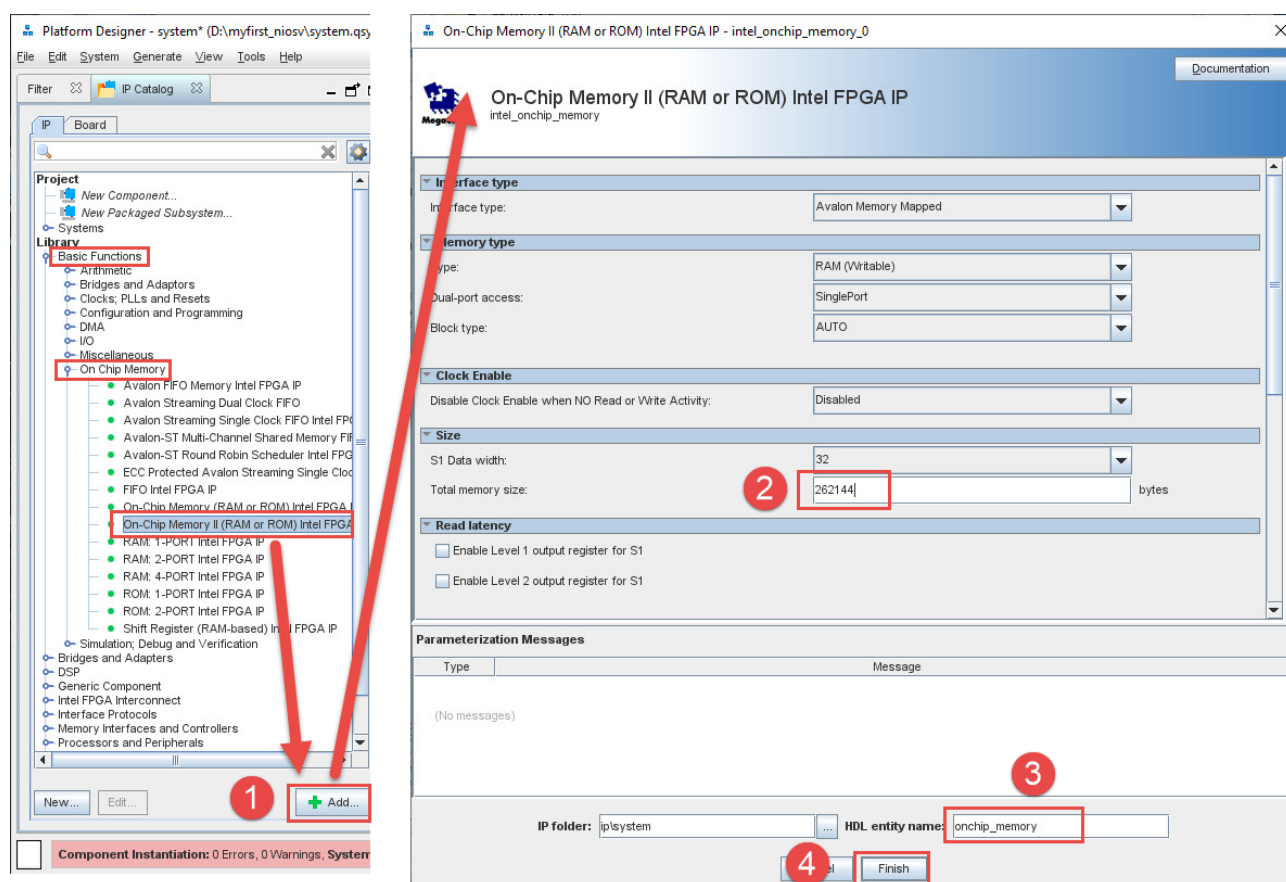

Figure 2-16 Add On-Chip Memory
5. Choose **Library > Basic Functions > On-Chip Memory > On-Chip Memory II (RAM or ROM) Intel FPGA IP** to open wizard of adding On-Chip memory. See Figure 2-16.